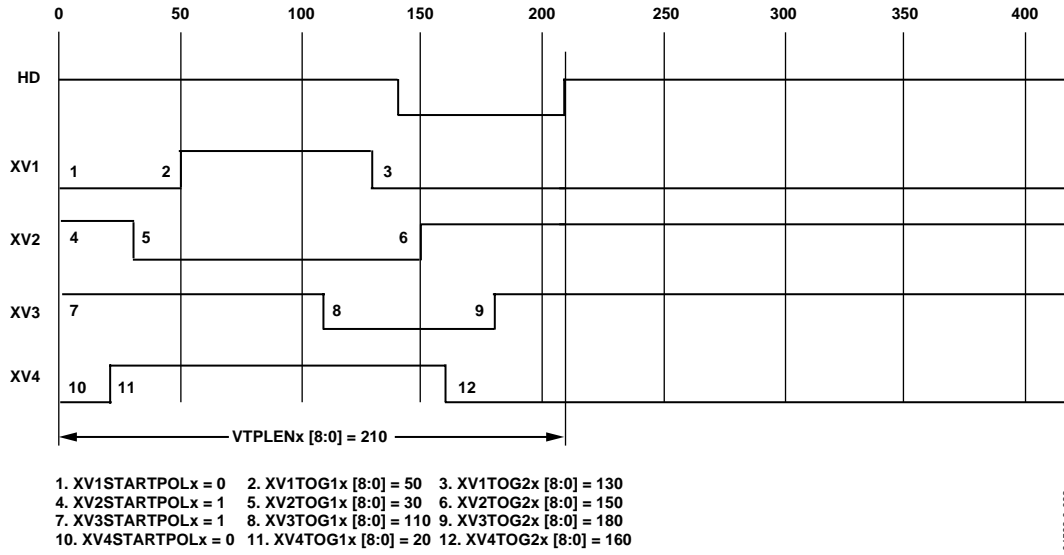
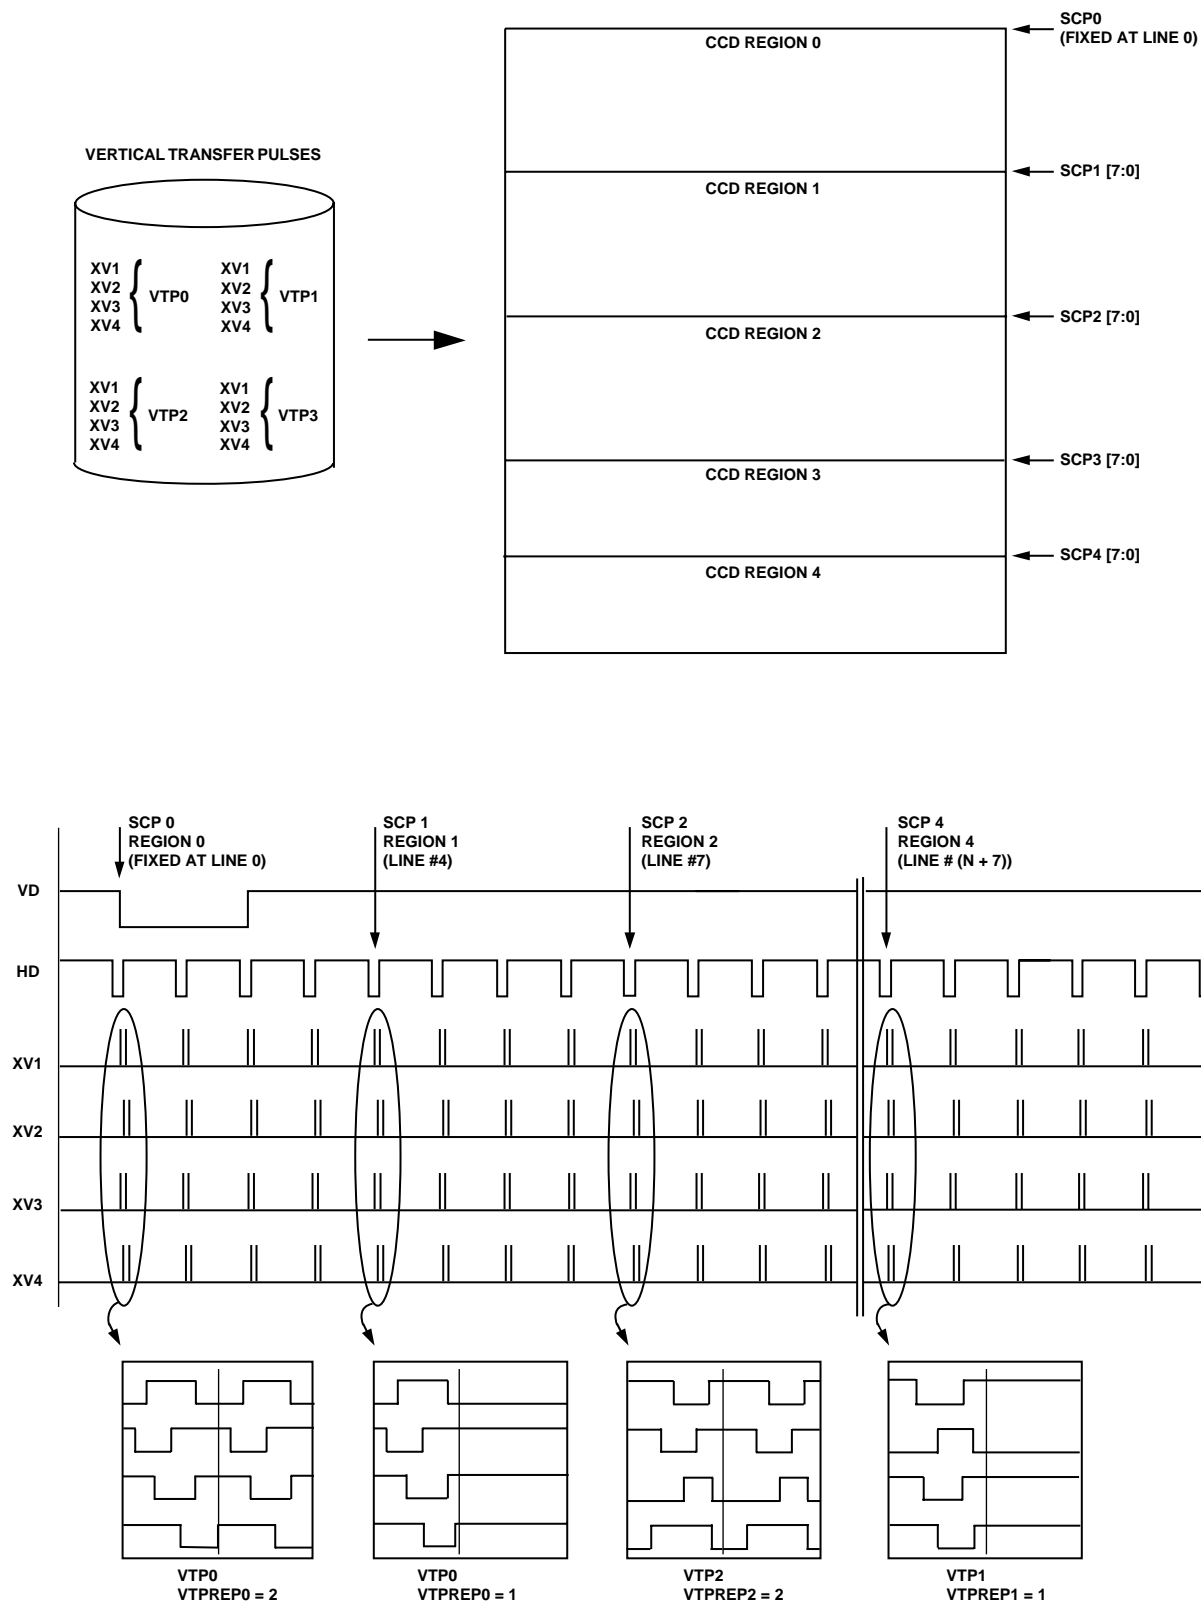
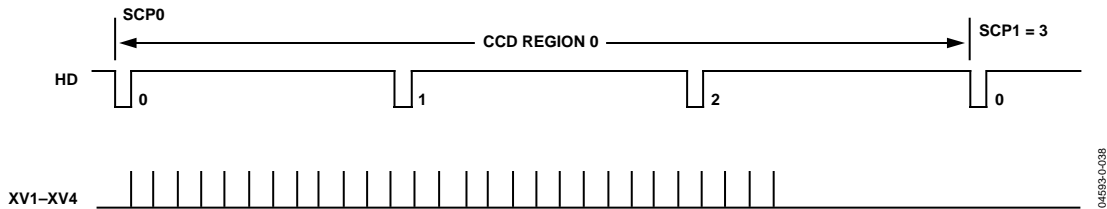
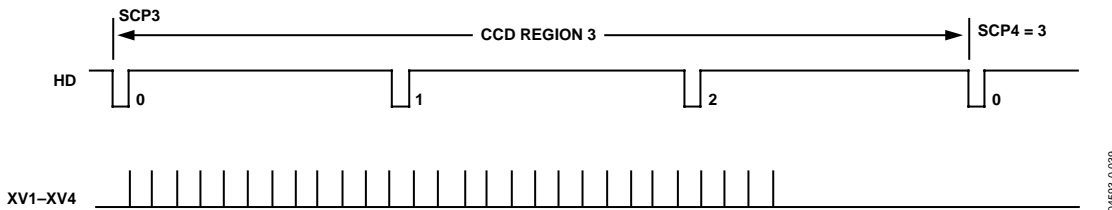

Figure 32. Step 1: Create Individual Vertical Pulses for VTP0, VTP1, VTP2, and VTP3 Patterns.
Figure 34. Steps 3 and 4: An Example of Building an Entire Field Readout by Assigning Sequences to Multiple CCD Regions
Figure 37. Sweep Mode Timing Example with SVREP_MODE = 1 and SVREP0 = 28
Figure 38. Sweep Mode Timing Example with SVREP_MODE = 2 and SVREP3 = 28
Figure 32 through Figure 34 provide an overview of how the vertical timing is generated in four basic steps.
Step 1: Create the individual pulses for patterns VTP0, VTP1, VTP2, and VTP3 (see Figure 32).
The registers shown in Table 22 are used to generate the individual vertical timing pulses, as shown in Figure 32.
Step 3: Output Vertical Sequences into CCD Regions (see Figure 34).
Step 4: Combining CCD Regions (see Figure 34).
The individual CCD regions are combined into a complete field readout by using sequence change position (SCPx) pointers as described in Table 23. Figure 34 shows how each field is divided into multiple regions. This allows the user to change vertical timing during various stages of the image readout. The boundaries of each region are defined by the sequence change position (SCP). Each SCP is a 8-bit value representing the line number boundary region. A total of four SCPs allow up to five different region areas in the field to be defined. The first SCP0 is always hard-coded to line 0, and the remaining four SCPs are register programmable.
The special vertical sweep mode operation is only output in CCD Region 0 and CCD Region 3 (see Figure 34), as shown in Figure 37 and Figure 38. The SVREP_MODE register located at